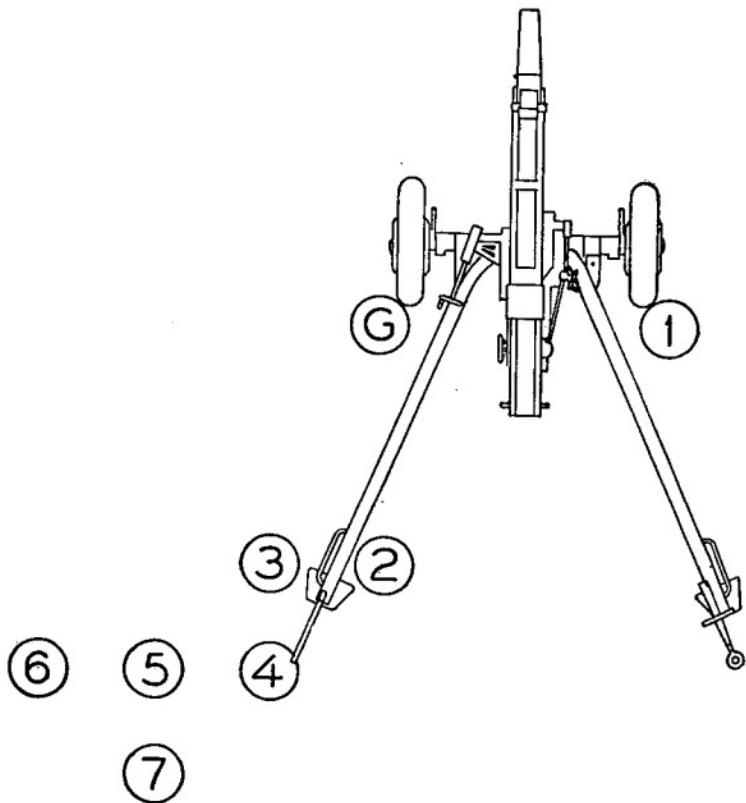

Figure 11. Posts of cannoneers, howitzer prepared for action.
16. TO PREPARE FOR ACTION (figs. 8 and 9.) a. The piece being in position uncoupled, the command is: PREPARE FOR ACTION. Duties of individuals are as follows (on completion of his duties, each gunner takes his post (fig. 11)):
b. The piece having been uncoupled and prepared for action, posts are taken as follows (fig. 11):